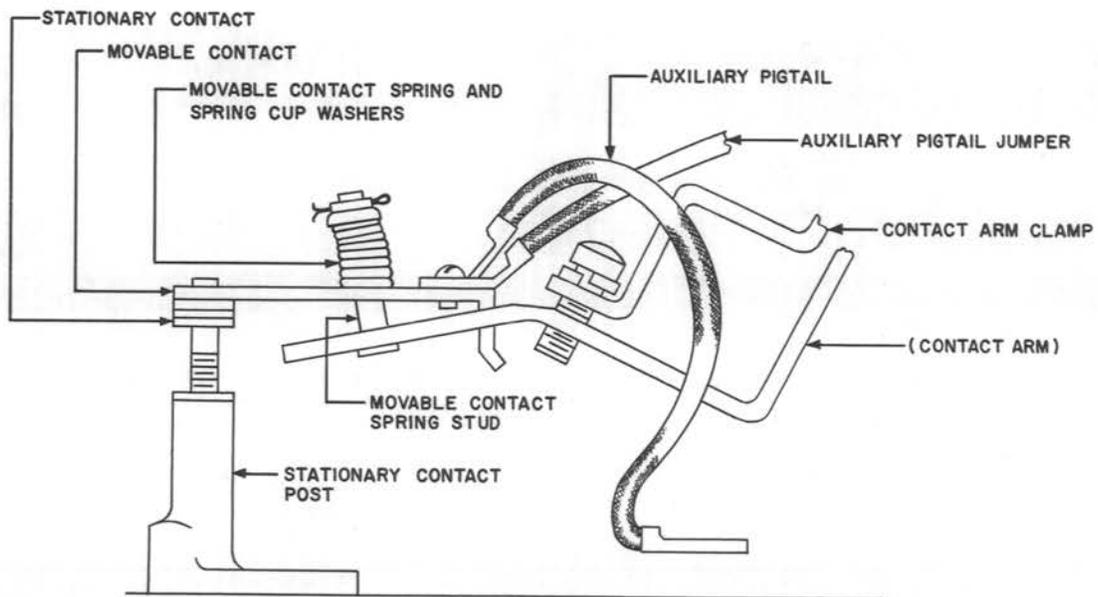

Fig. 4 - Auxiliary Contact Structure (Butt Type) of 30-, 75-, 100-, and 150-Ampere Contactors
**3.06 Movable Butt-Type Contacts** — See Fig. 4 to 7
**3.07 Stationary Butt-Type Contacts** — See Fig. 4 to 7